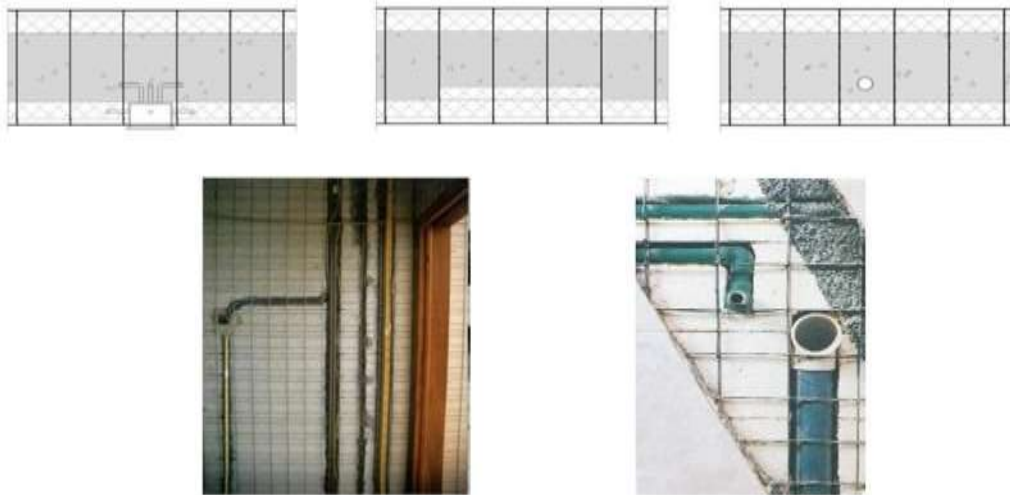

Fig. 53 Ducts embedded into concrete and/or insulation strips, either pouring concrete or afterwards in the insulation (cut or malt)
- In self-extinguishing polystyrene panel conduits path shall be made (see Fig. 53).